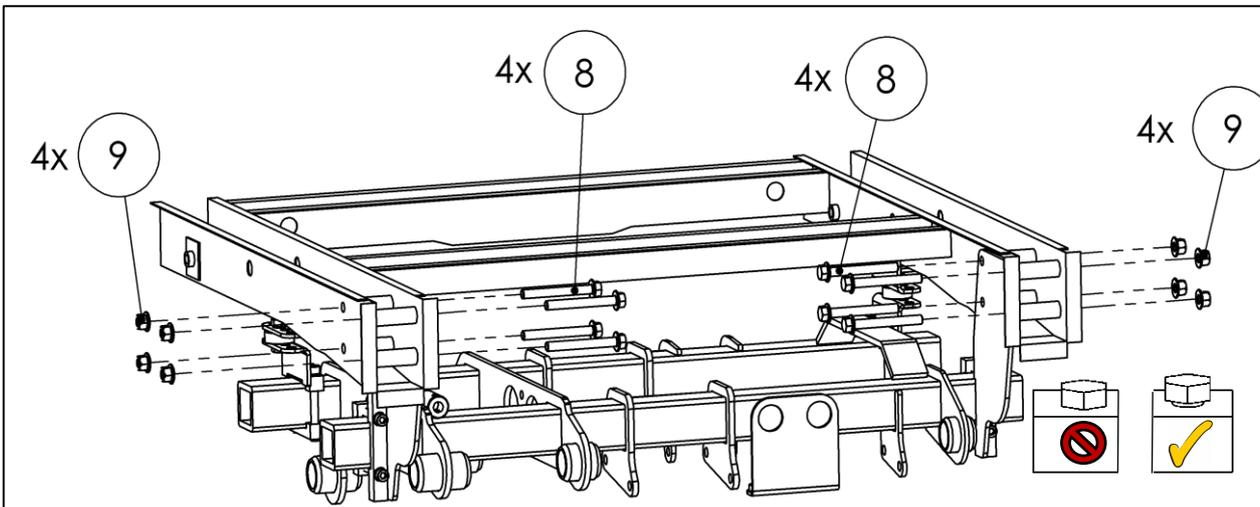

Fig. 29
- Raise the lifting gear. Insert the rear bolts (**installation adapter kit – Part No. 22 911 216**) as viewed in the forward direction of travel and tighten until hand-tight as shown in Fig. 29.